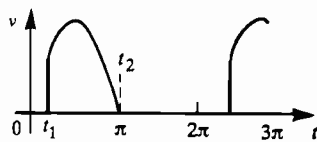

Fig. 7. Modified sine wave as may be found in the voltage output of a thyristor controlled power supply.
The curve in Fig. 7 might be the voltage output of a thyristor controlled power supply. To simplify the calculation, let $A = 1$ and $\omega = 1$. Now we have to integrate from $t_1 = \theta$ to $t_2 = \pi$:
This is often expressed to 3sf in the equivalent form $v_{rms} = 0.707A$. By integrating over part of the cycle, equation (5) is used for finding v_{rms} for waveforms such as those of Fig. 7. ■